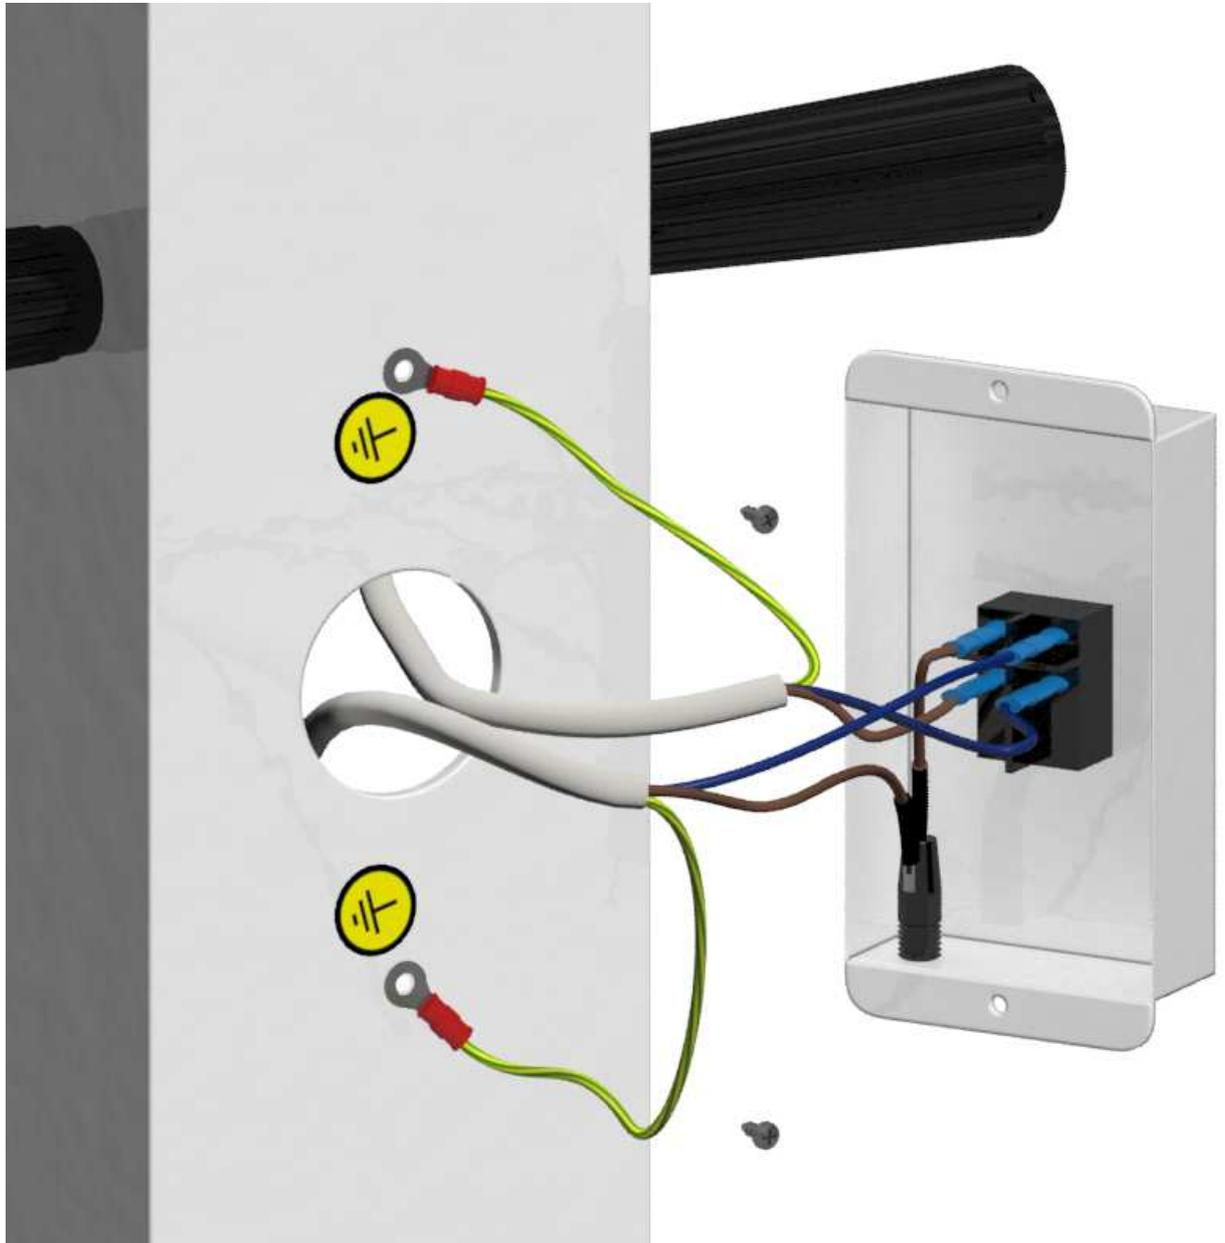

fig. 18
- ✓ Connect the cable coming from the double pantograph arm **(D)** to the switch board fuse holder **(F)** as shown in figure 18